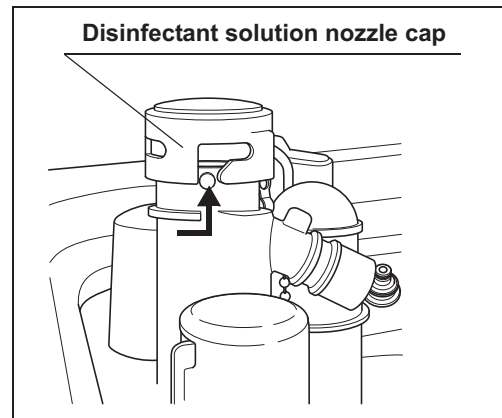

Figure 9.16
- 3 Uncap the disinfectant solution nozzle of the reprocessing basin by turning the disinfectant solution nozzle cap. Refer to the Figure 9.16.